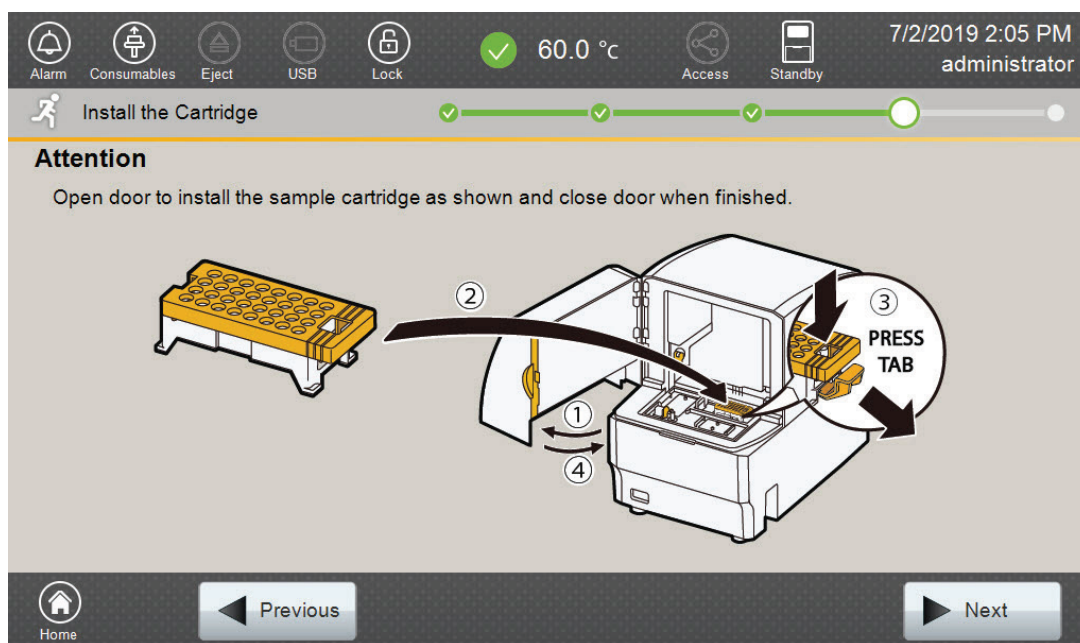

Figure 19. 'Install the Cartridge' screen.
2. Open the instrument door, and then place the sample cartridge on the autosampler following the instructions displayed on the 'Install the Cartridge' screen (Figure 19). Press down on the yellow tab on the autosampler deck that locks the sample cartridge in place before placing sample cartridge into position. Release the tab to lock the sample cartridge in place on the autosampler deck.